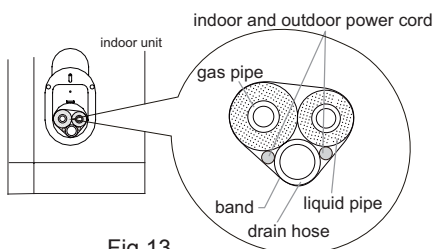

Fig.13
1. Bind up the connection pipe, power cord and drain hose with the band. (As show in Fig.13)